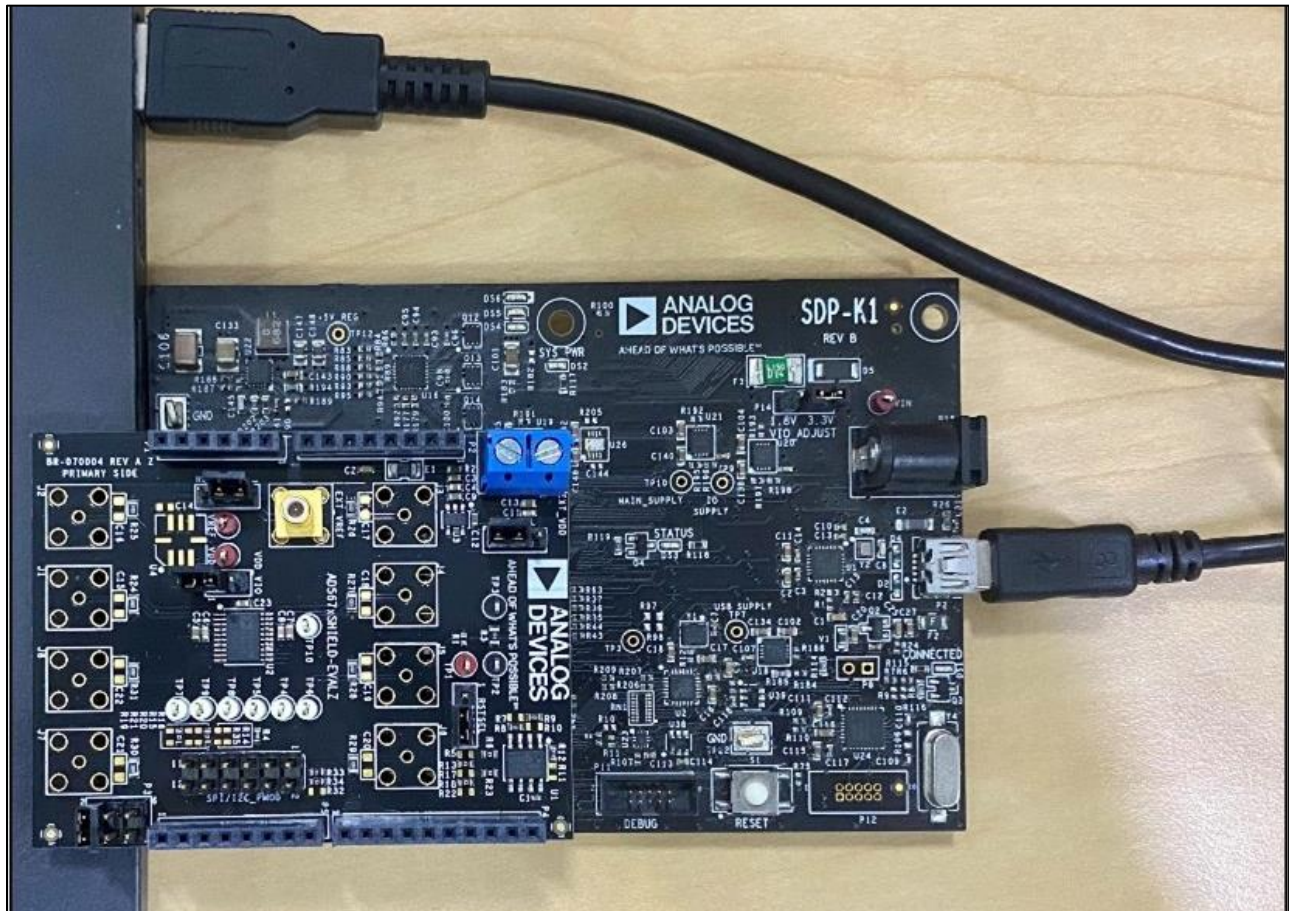

Figure 10 EVB, SDP-K1 and Laptop Connection
2. Connect the EVAL-AD5675RARDZ to the Arduino connector of SDP-K1 (EVAL-SDP-CK1Z) as shown in Figure 10.